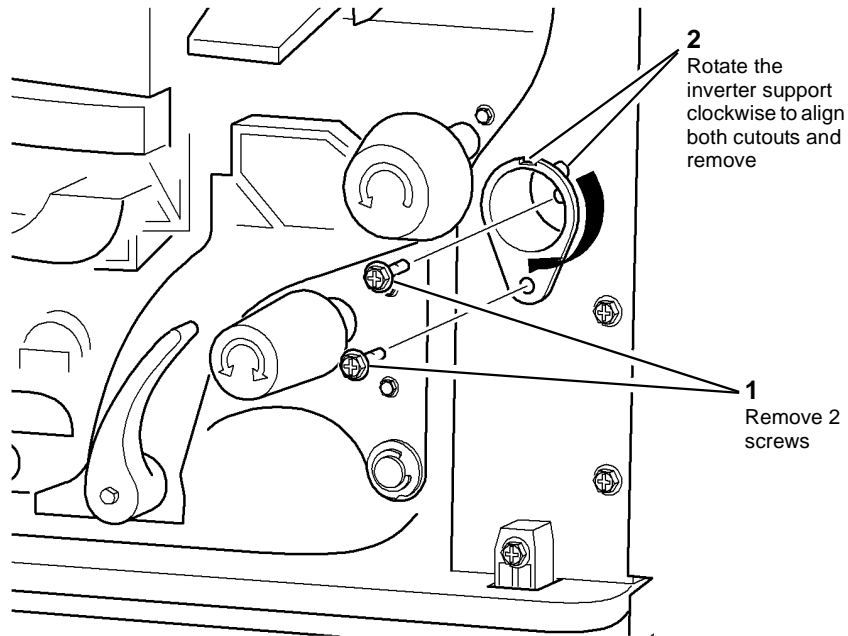

Figure 1 Inverter support
5. (W/O TAG 046, W/O TAG 047 or W/O TAG 148). Remove the inverter support, Figure 1.